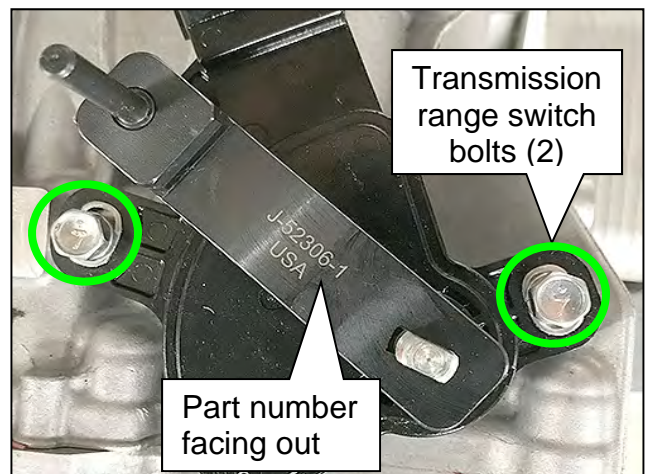

Figure 216
- b. Attach the combined alignment tool onto the manual shaft as shown in Figure 216 with the part number facing out.
- c. Install the two (2) original bolts for the transmission range switch (Figure 216).